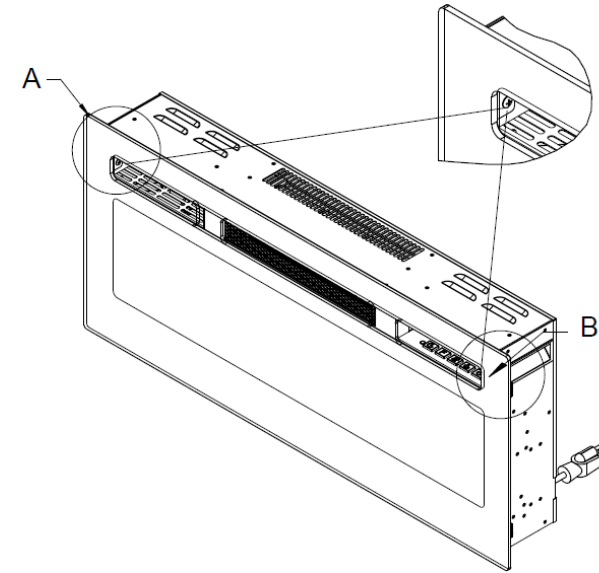

Fig.2
- Remove white screws on both corner from the appliance panel see Fig.2